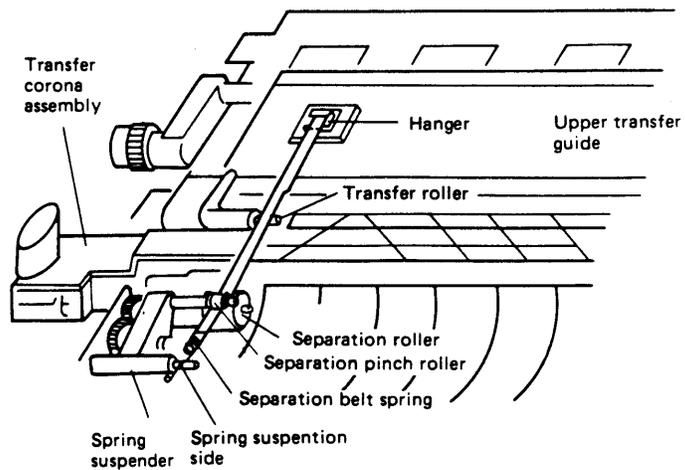

FIGURE 14
4. Hang loop A from the tab on the upper transfer guide (Figure 14). The indentation on the separation belt belongs on the right side.
5. Pass the separation belt over the transfer roller, and under the separation pinch roller (Figure 14).